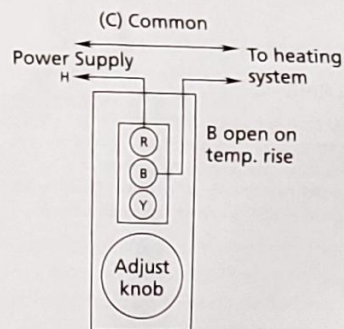

Figure 1 - Connection for a Typical Heating Control Circuit
**IMPORTANT:** All wiring should be done in accordance with applicable codes, ordinances and regulations. Use a disconnect device and overload protection to assure safe installation complying with local and national codes. Figures 1, 2 and 3 illustrate typical wiring for control of heating, cooling, refrigeration, and combination heating/cooling control systems (use copper conductors only).